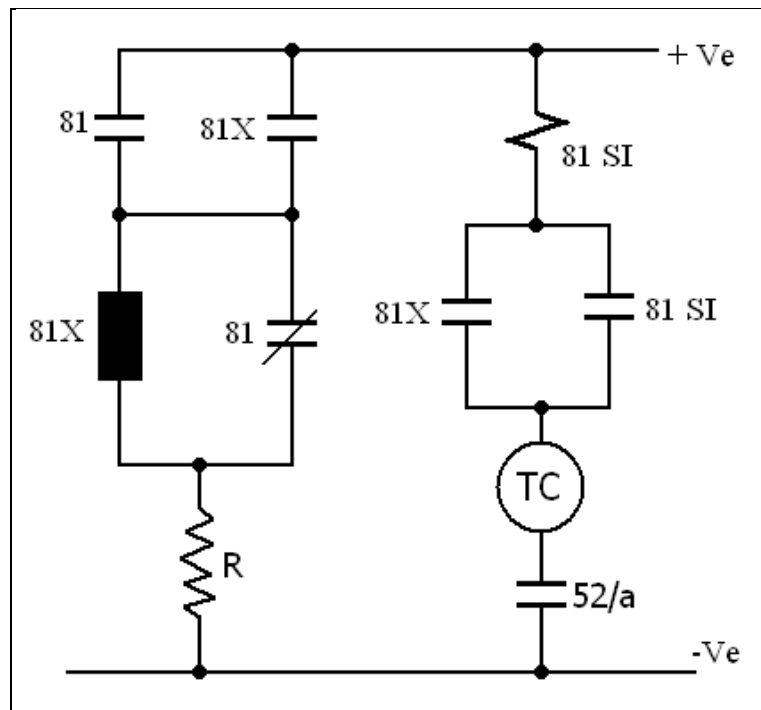

Fig. 1.5-7
8. For the circuit shown in Fig. 1.5-7, what is the purpose of the break contact of **81** in parallel with **81X** coil?